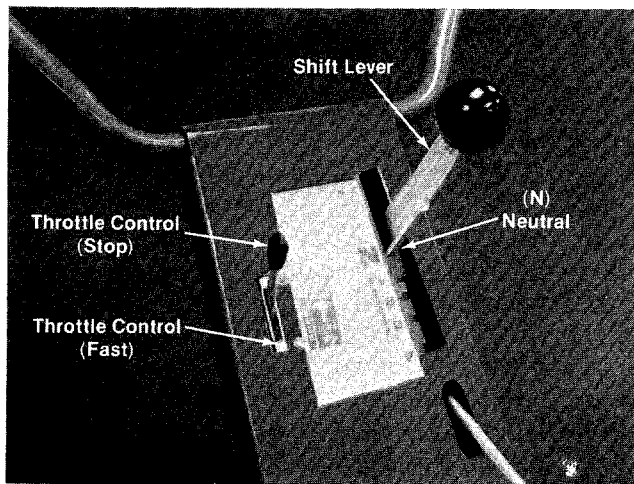

FIGURE 16.
1. Place the shift lever in the neutral (N) position. See figure 16.
3. Move the throttle control lever forward to FAST POSITION. See figure 16.
5. TO STOP ENGINE: Move control lever to "STOP" position. See figure 16.